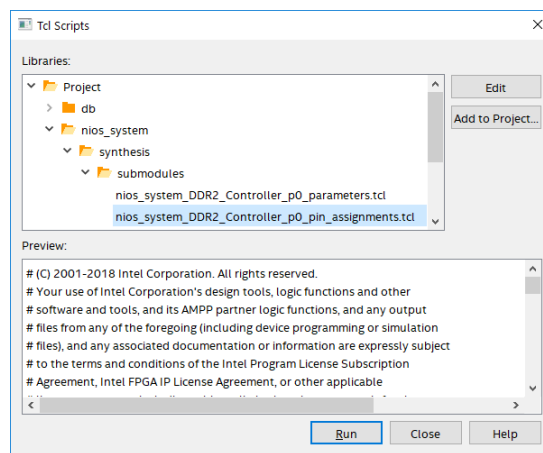

Figure 11. TCL Scripts window in Quartus Prime.
- Click Tools > Tcl Scripts... to open the window in Figure 11. Select and run the script Project > nios_system > synthesis > submodules > nios_system_DDR2_Controller_p0_pin_assignments.tcl; the script is required to correctly set the differential pins needed by the DDR2 SDRAM Interface.